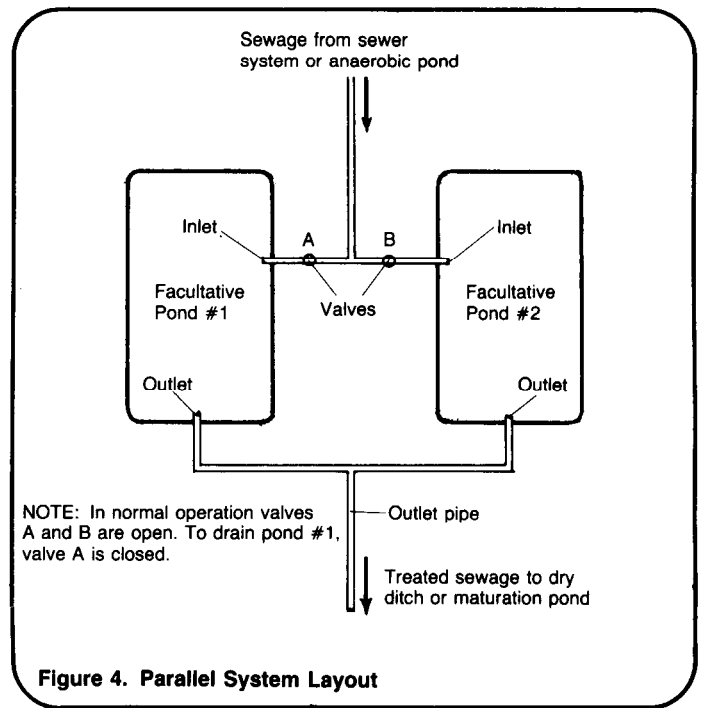

Figure 4. Parallel System Layout
5. Design drawing of the pond system layout, similar to Figure 4 or 5;